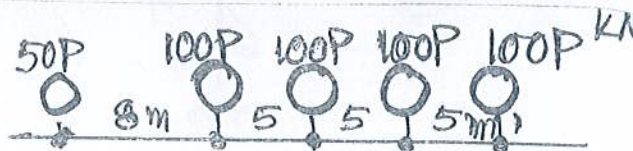

Fig.3
4. Draw the Influence line, find the wheel position & then Calculate the maximum bending moment at 30m from the left support of a simply supported beam of 50m for the wheel load arrangement shown in Fig. 3, where $P = 2$, if roll is even or $P = 3$, if the roll is Odd. (14)
8. Fig. 3(a) shows a reinforced concrete gallery-slab (in a football stadium) of span $L_{12} = (20 + 0.1R_0)$ ft and width $S = L_{12}/2$, supported on simply-supported L- and T-beams.
- (i) Calculate the maximum steel area (A_s) required for the simply-supported central T-beam b_1b_2 [section shown in Fig. 3(b)] of span L_{12} supporting the reinforced concrete gallery-slab to behave like a rectangular beam (i.e., $c = t$) and corresponding maximum distributed load (w_1) on it.
9. Use the USD method to design the simply-supported reinforced concrete gallery-slab (of span $S = L_{12}/2 = (10 + 0.05R_0)$ ft), assumed as 6" slabs shown in Fig. 3(b) if the live load LL on it is $(200 + R_0)$ psf.
10. (i) Use ACI coefficients for maximum positive and maximum negative moment to design (by USD) the continuous (two-span) beam $a_2b_2c_2$ shown in Fig. 3(a) with span lengths $S = (10 + 0.05R_0)$ ft.